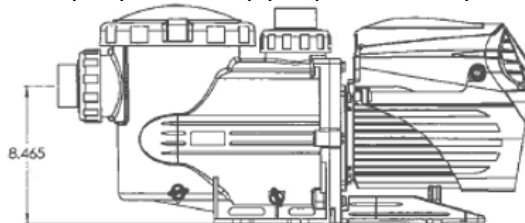

Figure 3A – pump shown without adjustable base
2. Select the correct side of the pump base for desired pump inlet elevation, without base the pump inlet centerline (fig 3a) is 8.465" inch. The base additionally allows for a 9.125" or a 10.75" inch pump inlet centerline to ground clearance, which allows easy retrofits from popular competitor pump products.